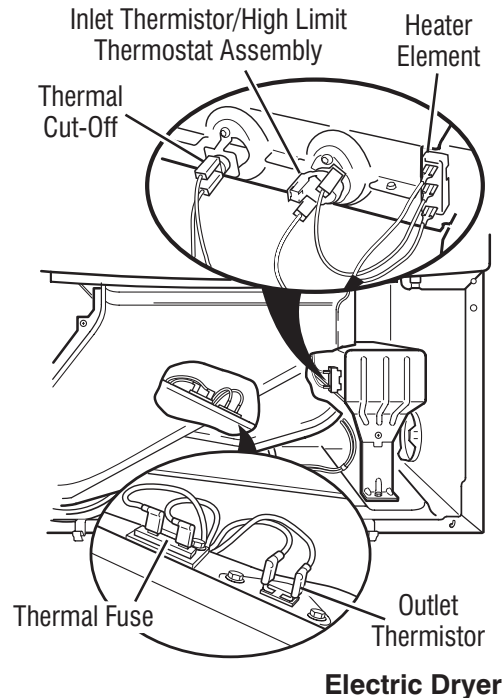

Figure 20a - Thermal components, electric dryer, viewed from front.
Locate the components using figures 20a and 20b. To access heater system components, see Dryer Disassembly Instructions, page 23.
5. Locate the high limit thermostat (see figures 20a & 20b, page 14). Measure the continuity through it by connecting the meter probes to the red and black wire terminals.
NOTE: On the electric dryer, the inlet thermistor is part of the high thermostat assembly (see figures 20a & 20b). On the gas dryer, the inlet thermistor is located below the CCU bracket at the drum inlet duct (see figure 28, page 27).